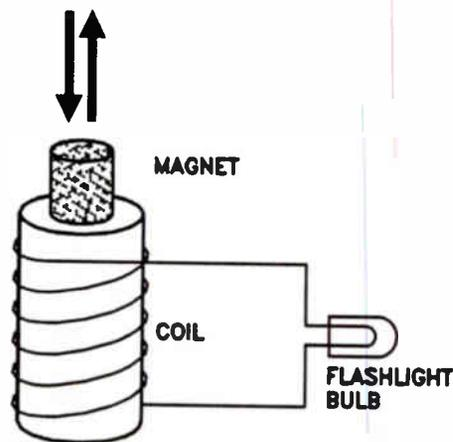

Figure 16. An illustration of how magnetic lines of force induce a voltage.
**Induced Currents.** We have seen that current flowing through a coil produces an electromagnet. Is the opposite true? If a magnet is placed inside a coil, will a current flow? A flashlight bulb connected to a coil wound on a hollow form is shown in Fig.16. When the magnet is moved rapidly from outside the coil to inside the center of the coil, the bulb will light while the magnet is moving. When the magnet stops inside the coil, the light goes out. The bulb lights again when the magnet is moved quickly out of the coil. If the magnet is moved rapidly back and forth in the coil, the bulb will light and remain lit as long as the magnet is in motion.
The action of the two coils looks much different from the effect obtained with the moving magnet shown in Fig.16. However, the basic principle is much the same. When the switch is closed, current flows in L1, causing a magnetic field to build around it. The magnetic field builds